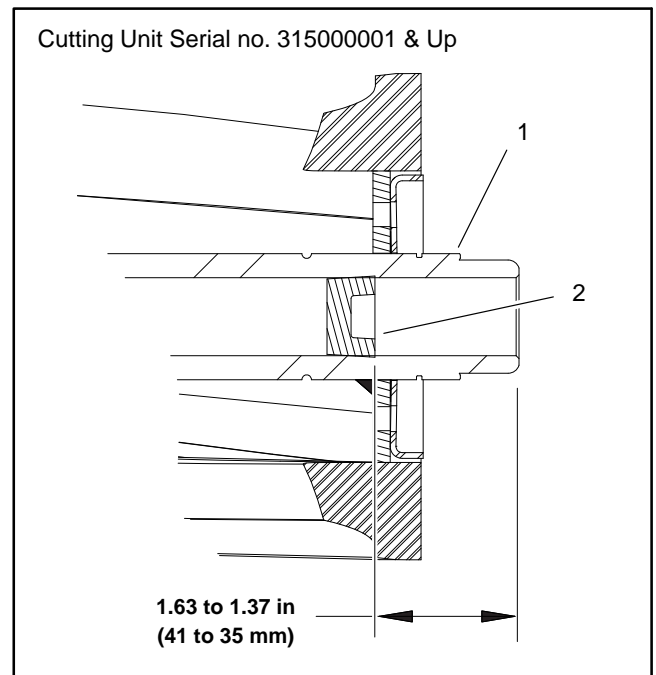

Figure 41
1. If removed, install new reel shaft plugs into cutting reel shaft. For cutting unit serial no. prior to 315000001, make sure plastic plug is pressed flush into end of threaded insert. For cutting unit serial no. 315000001 & Up, make sure plastic plug is pressed unto reel shaft **1.63 to 1.37 in. (41 to 35 mm)** below the end of the shaft (Fig. 41)